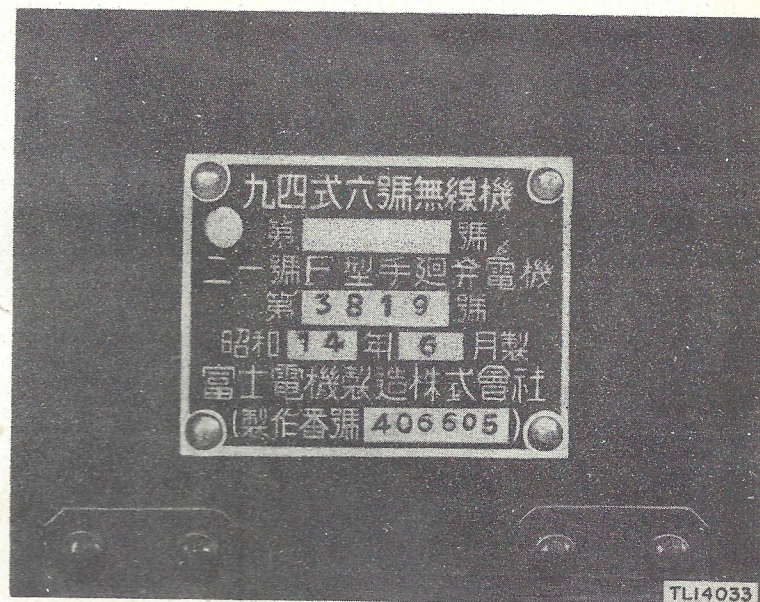
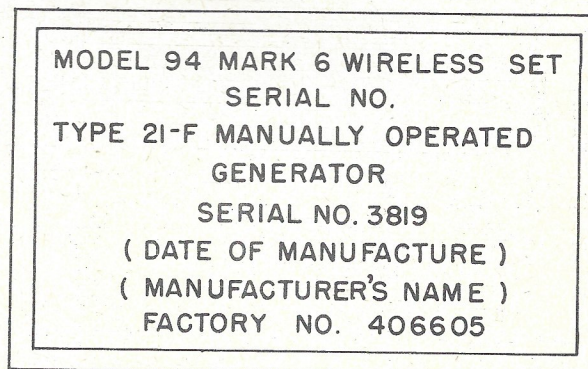
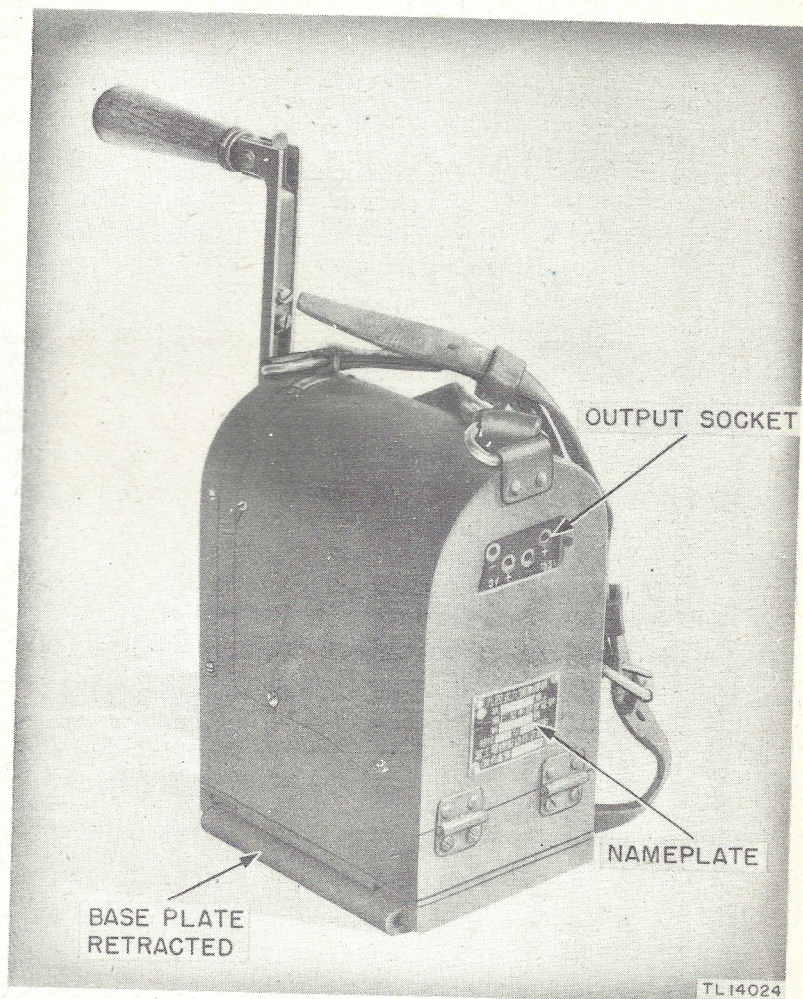

Figure 5a. Nameplate of Type 21-F manually operated generator.
Figure 5b. Nameplate translation of Type 21-F manually operated generator.
Figure 7. Type 21-F manually operated generator, rear view.
(1) The hand generator issued for use with the set is 二一號F型手廻弁電機 (Type 21-F manually operated generator). See figures 7 and 8. The nameplate and dataplate are shown in figures 5a and 6a with their American equivalents in figures 5b and 6b. The four-connector output socket supplies positive and negative 3 volts and 135 volts as marked on the socket. A four-wire cable is used in cording the generator output socket to the trans-
ceiver unit. The hand generator is carried for portable operation by means of a leather strap, and two retractable base plates on the bottom of the generator (figs. 7 and 8) may be drawn out and used to mount the generator on a supporting stand. A single folding-type crank for turning the generator is secured to the drive gear and ratchet assembly shaft by a steel pin.